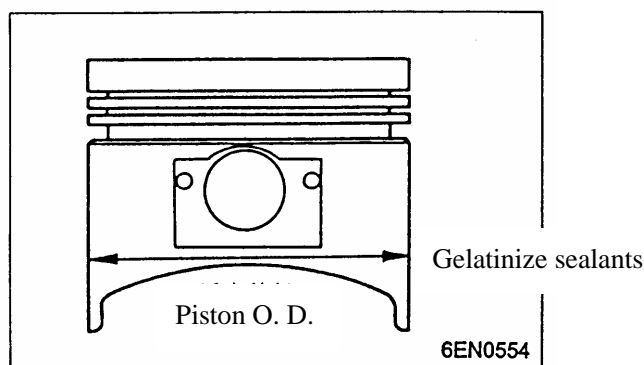

Fig.4-98
- (1) Oversize pistons to be used should be determined on the basis of the cylinder with the largest bore.
- (2) Oversize pistons are available with the following oversize dimensions: 0.25mm, 0.50mm, 0.75mm, and 1.00mm. measure the diameter of the piston to be used. Boring must be carried out such that the piston-to-cylinder clearance complies with the standard value. The piston's diameter should be measured at the points shown, see Fig.4-98.